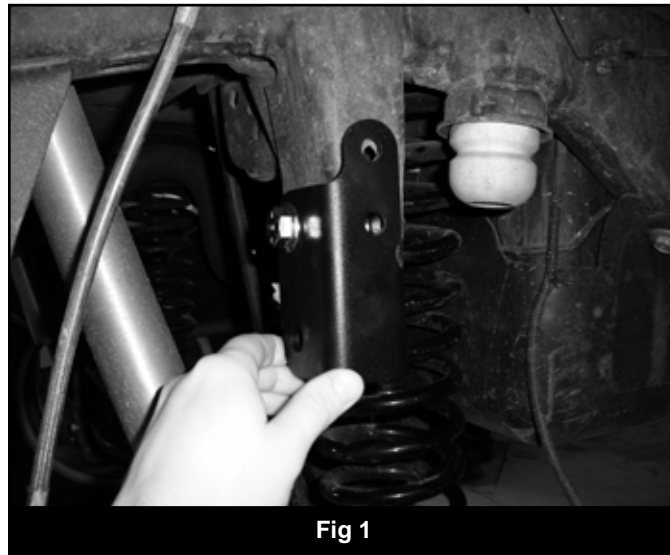

Fig 1
4. Temporarily install the new track bar bracket (01948) into the OE frame bracket with the new provided 9/16" hardware. The bracket mounts to the back and outside faces of the OE mount and against the front inside surface (Fig 1).
5. Using the bracket as a template, mark the outside hole to be drilled. Remove the bracket and drill a 1/2" hole at the mark (Fig 1).